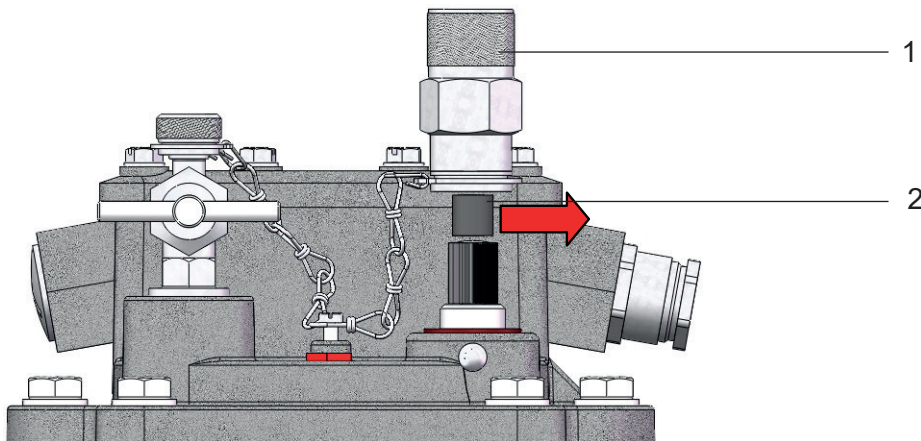

Figure 9 - Removal of transport lock
- Remove the large cap nut (Fig. 9/ No. 1)
- Take the transport lock, consisting of a rubber piece and a washer (Fig. 9/ No. 2), out of the large cap nut